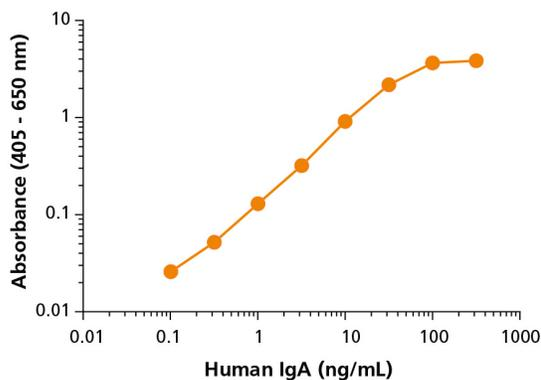

Figure 2. Representative Standard Curve
18. Calculate the average absorbance of each sample from the duplicate values. Subtract the mean absorbance value of the blank from the standard, the background control, and the sample values prior to generating the standard curve and determining the immunoglobulin concentrations of the samples. A representative standard curve is shown in Figure 2.